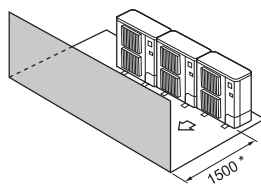

Fig. 2-15
- ③ Obstacles at front only (Fig. 2-15)